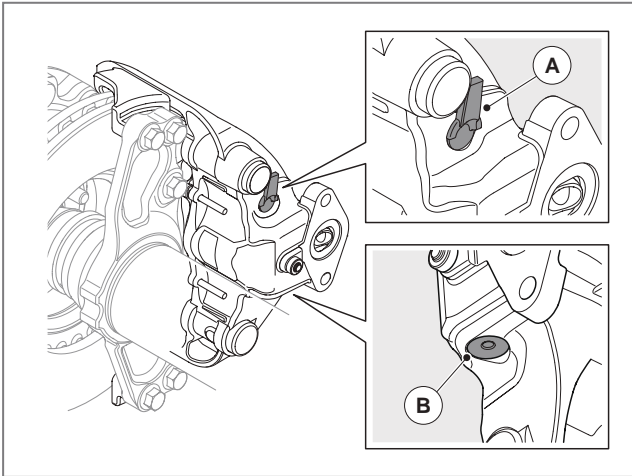

Fig. 20 - Two protective plugs
- The reset shaft protective plug (A) and brake calliper seal (B), see ► Fig. 20,
Never remove the housing seal (B), see ► Fig. 20.